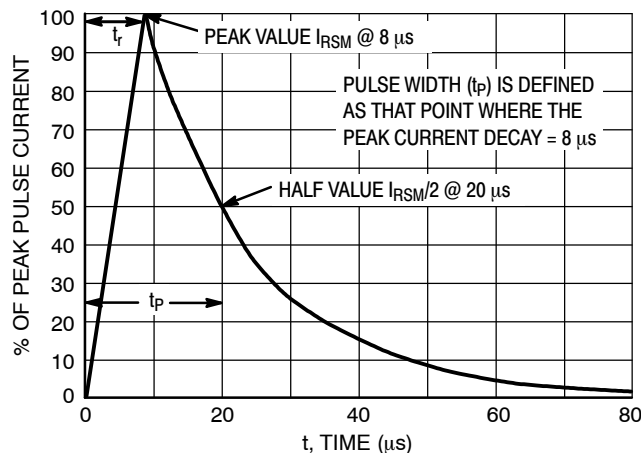

Figure 5. 8 X 20 μ s Pulse Waveform
1. Non-repetitive current pulse per Figure 5 (Pin 5 to Pin 2)
- Non-repetitive current pulse per Figure 5 (Pin 5 to Pin 2)
- Non-repetitive current pulse per Figure 5 (Any I/O Pins)
- Surge current waveform per Figure 5.